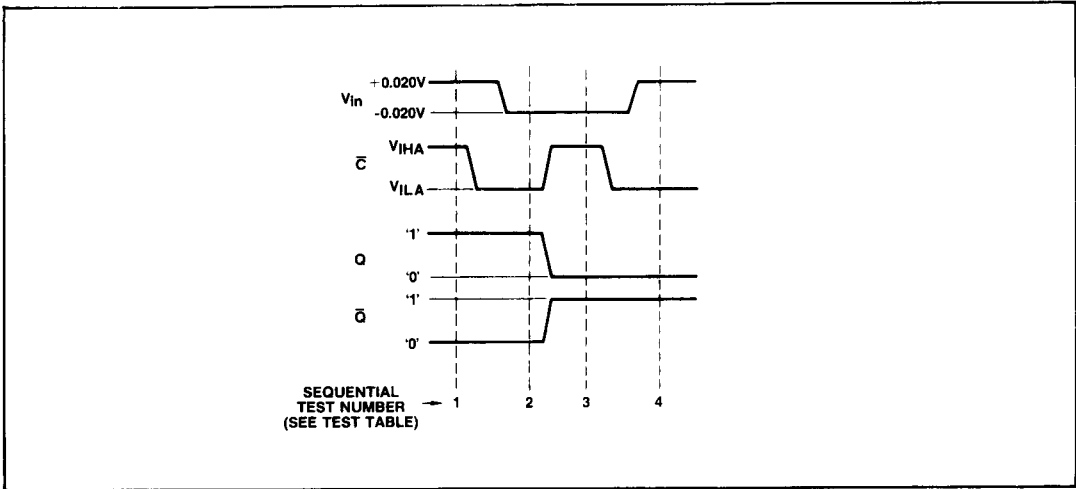

Fig.6 Logic threshold tests (waveform sequence diagram)
(2)	2	-	-	-	-	-	-	Vdc	-	-	-	-	-	-	-	-	-	-	7.10	8	15.11,16
(3)	3	-	-	-	-	-	-	Vdc	-	-	-	-	-	-	-	-	-	-	7.10	8	15.11,16
- These tests done in order indicated. See Figure 6.